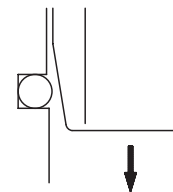

Fig. 4
- (4) If the seal ring is distorted after fitting, correct the distortion with the jig before assembly. (Fig. 4)